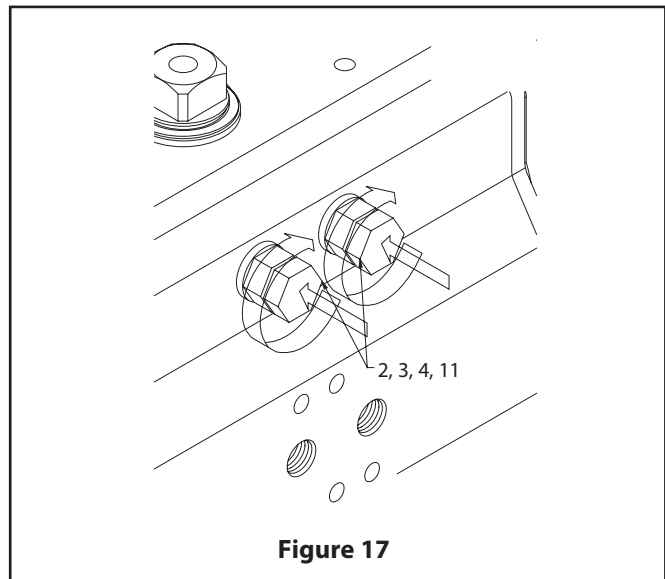

Figure 17
4. Assembly of Stop Screws (2) and Stroke Adjustment. (Figure 17):
- A. Insert the nut (4), washer (3), and o-ring (11) onto the stop screws (2).
- B. Screw the stop screws (2) into the body (50).
5. External Travel Stop Adjustment, (Figure 17):